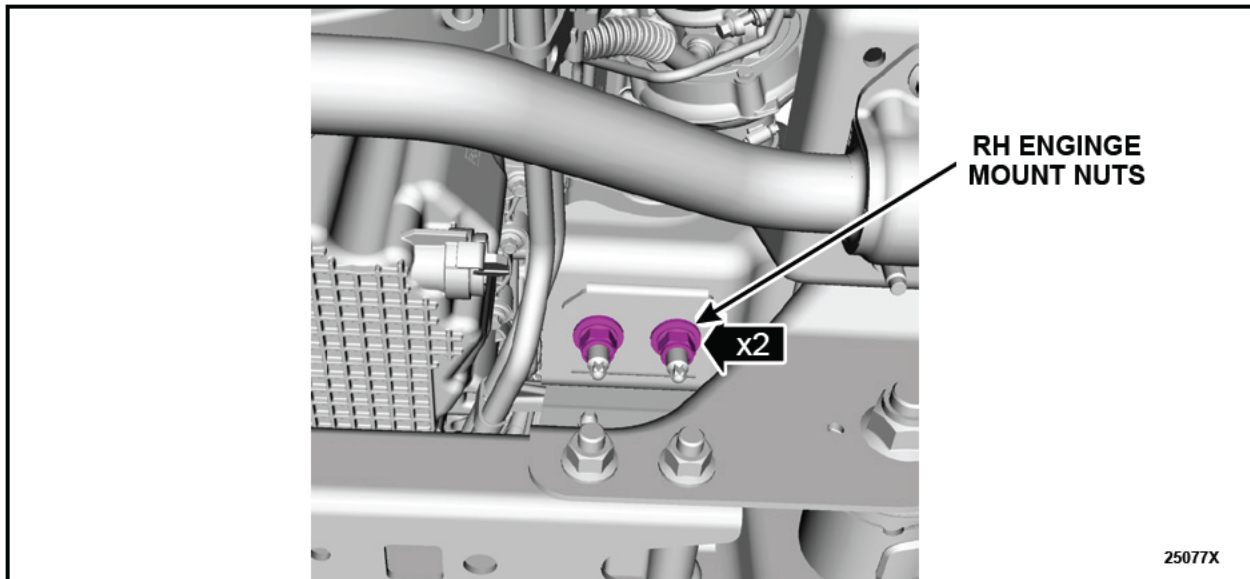

FIGURE 22
3. Remove the RH engine mount nuts. See Figure 22.